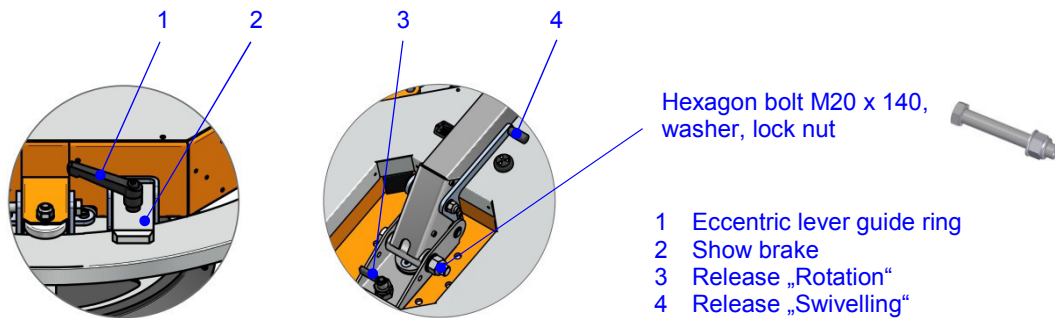

Fig. 12: OKTOPUS® GLASS-Jack GL-RN 400/600/800 with guide ring resp. crane arm
**In order to avoid unintended load rotation, make sure that the sliding lever „Rotation“ (see fig. 12) is locked. The sliding lever „Swivelling“ shall be released and the crane arm be vertical !**
- ⇒ Unlock the release "Rotation" (see fig. 12) and turn the load into the appropriate position. After that relock the sliding lever.
**To avoid unintended load rotation, make sure that upon use of the version GLASS-Jack GL-RN 400/600/800 with guide ring, the eccentric lever guide ring (see fig. 12) shall be tightened!**
- ⇒ Slowly release the eccentric lever guide ring (see. fig. 12)!
**Never attempt to unlock release “Swivelling” (see fig. 12), if it carries a load. This would cause uncontrollable “downward tilting” of the load.**
- ⇒ Unlock the release “Swivelling” (see fig. 12) and move the load into a horizontal position.
- ⇒ Dismount the crane arm. To do so remove the hexagon bolt (see fig. 12).
- ⇒ Mount the brake being part of the scope of supply (see fig. 12 and 15) as follows:
- ⇒ Mount the crane arm (see fig. 1) by means of the hexagon bolt M20 X 140, the washer and the lock nut being part of the scope of supply (see fig. 12).